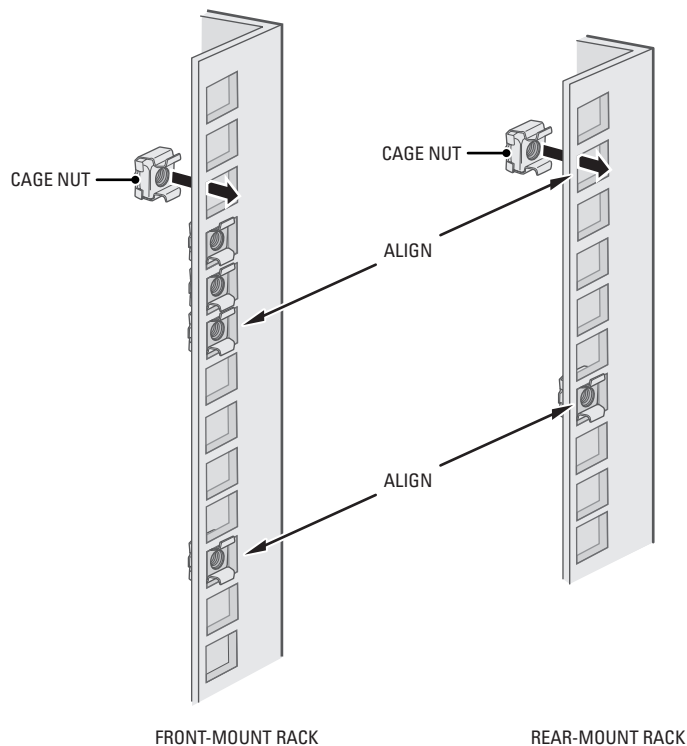

Figure 8. Inserting Cage Nuts
5. *If you are installing the unit into a square-hole rack:* Insert 14 cage nuts into the square-hole rack as shown in Figure 8. Align the bottom cage nuts on the front racks with the bottom cage nuts on the rear racks. Then align the top cage nuts with the front racks (refer to Figure 8).